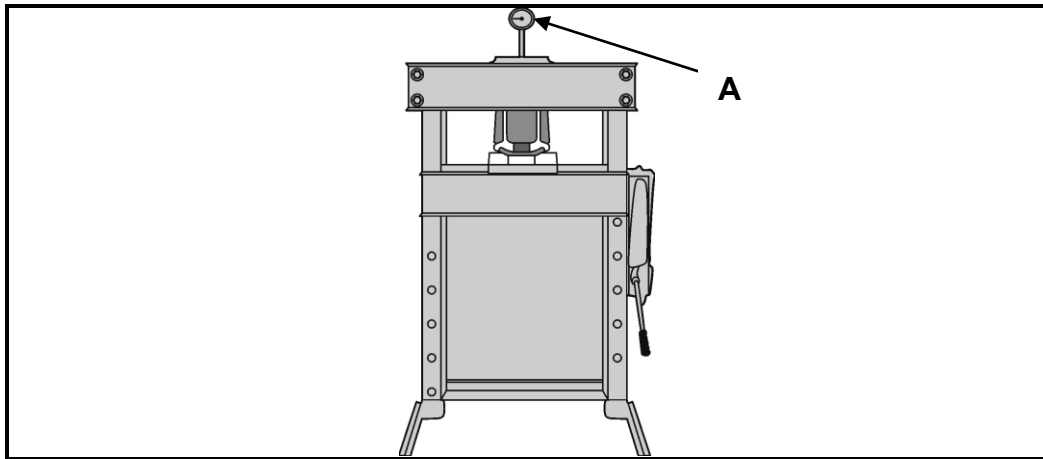

FIGURE 1.14
1.14 Identify the diagram in FIGURE 1.14 below.
1.15 What is the function of the part labelled **A** in FIGURE 1.14 on the previous page?